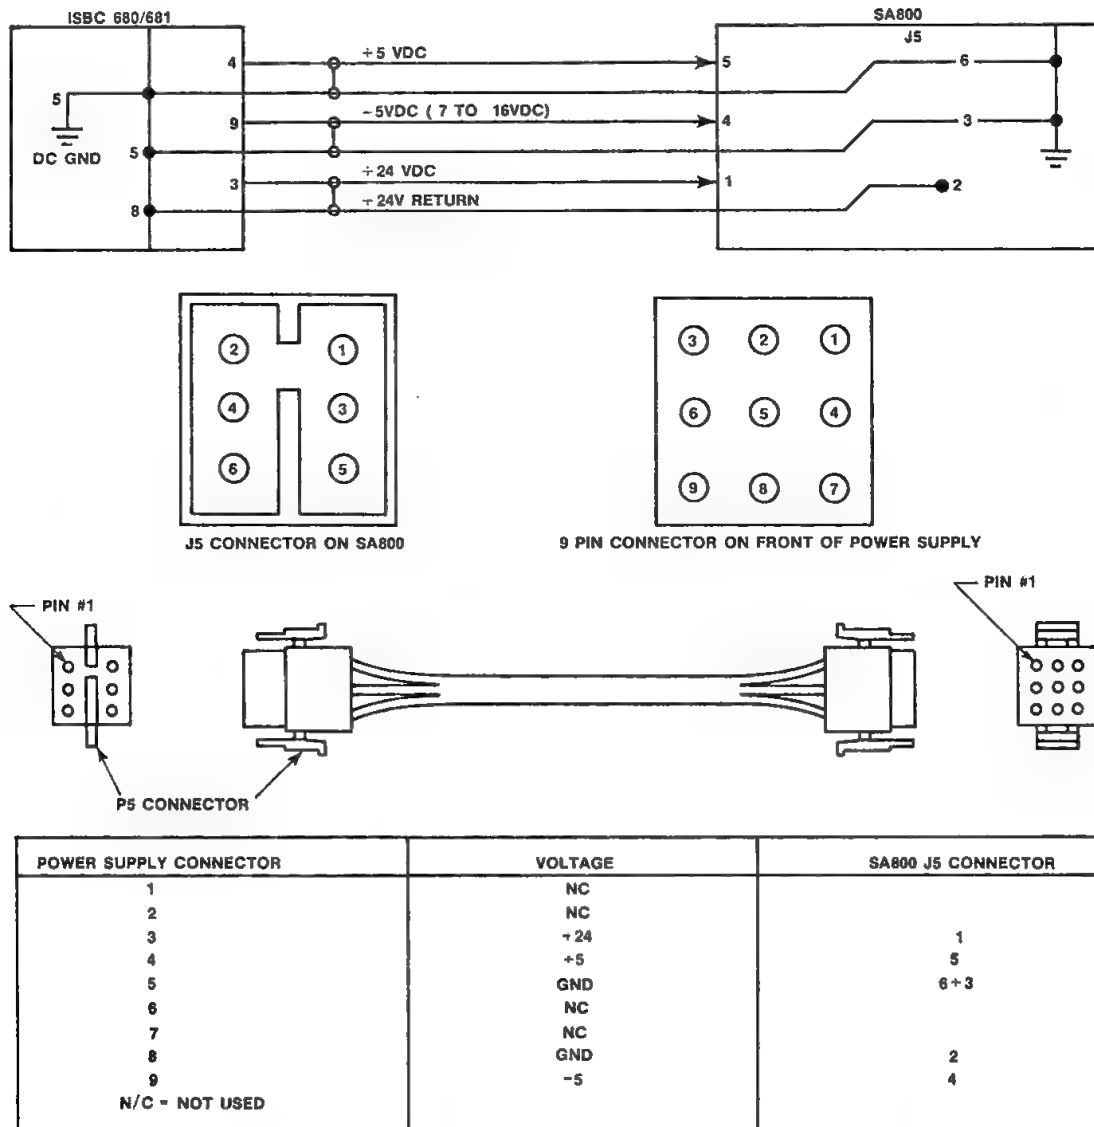

Figure A-3. DC Wiring for Shugart SA800 Diskette Drive Interface
- Using a 6-inch, 6-wire #26 DC power cable with a 6-pin AMP Mate-N-Lock connector (AMP P/N 1-480270-0) on one end and a 9-pin connector (AMP P/N 1-480706-0) on the other end (see Figure A-3), install the 6-pin connector (P5) in slot J5 on the disk drive.